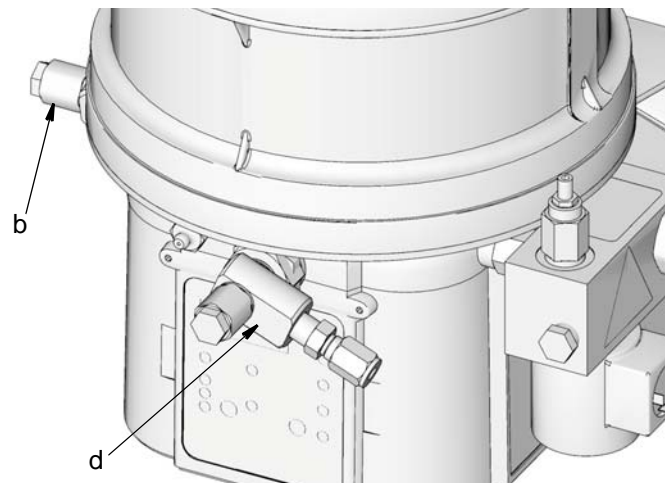

FIG. 15
4. Install the two banjo assemblies (b and d) as shown in FIG. 15